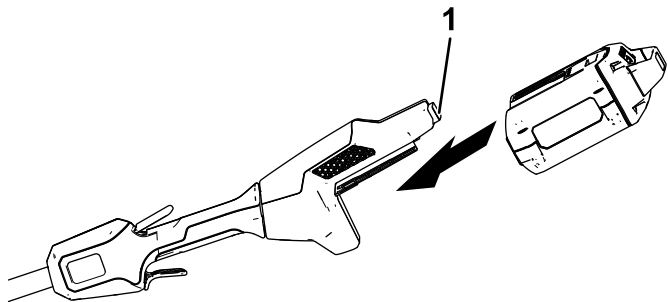

Figure 10
2. Aligned the notch of the battery on the tongue of the handle (Figure 10).
3. Push the battery into the handle until it clicks into the lock (Figure 10).